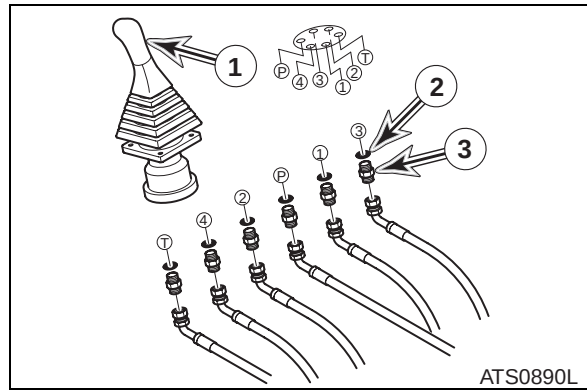

Figure 5
15. Tag and disconnect hoses from joystick valve (1, Figure 5).
16. Remove six fittings (3, Figure 5) and O-rings (2, Figure 5).